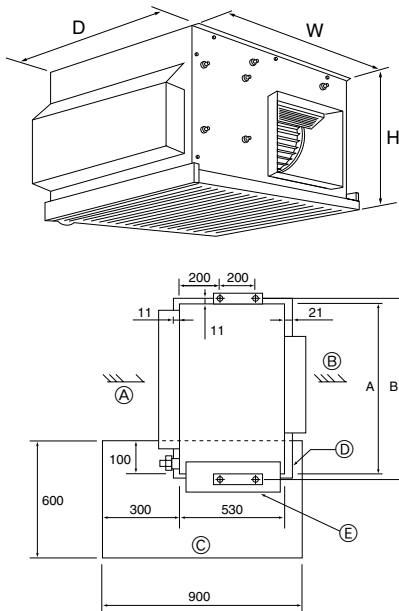

Fig. 3-2
3.2. Unit dimension and service space (Fig. 3-2)